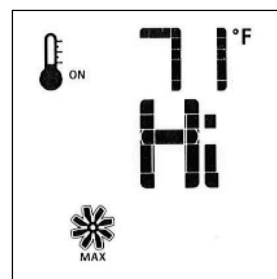

Figure 8.22. Fan Speed.
- Use the Up/Down Arrow Keys to turn ON, OFF, or adjust the fan speed. Fig. 8.22. A single “beep” will confirm reception of the command. After a 5 minute interval, the fan will power up to its highest speed and then modulate down to the established fan speed setting. The fan will continue to operate for 12 minutes after the burner is turned off. Manual speed control is not available when the SMART Thermostat is ON.